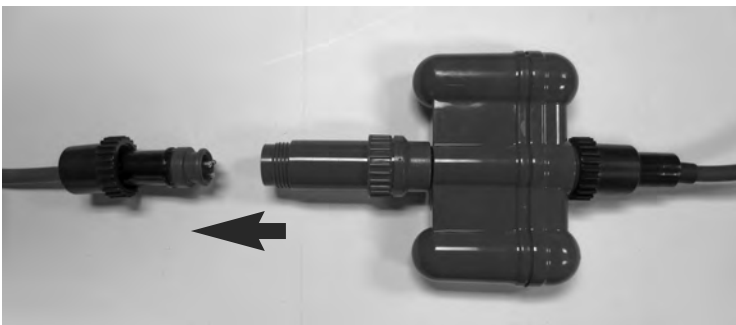

FIGURE E1
- 3) Disconnect the short cable from the swivel by loosening the black collar and gently pulling on the plug (Figure E1).